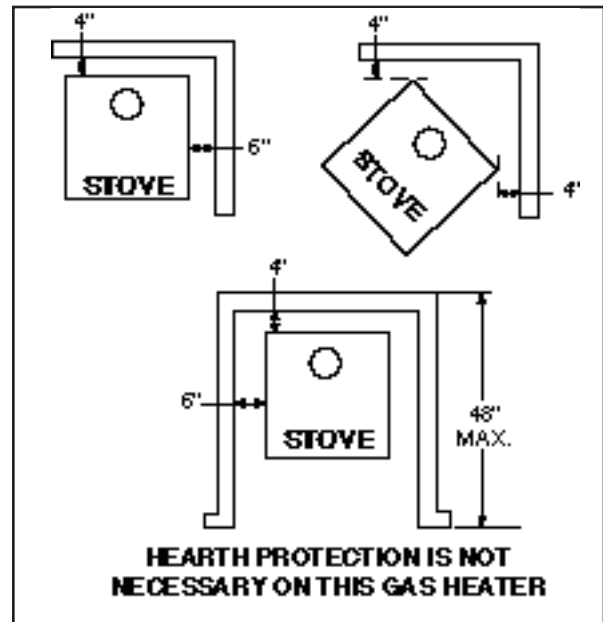

Figure 1
1. Positioning the Heater. Position the heater in its desired location. Maintain all clearances found in Figure 1 on page 8.